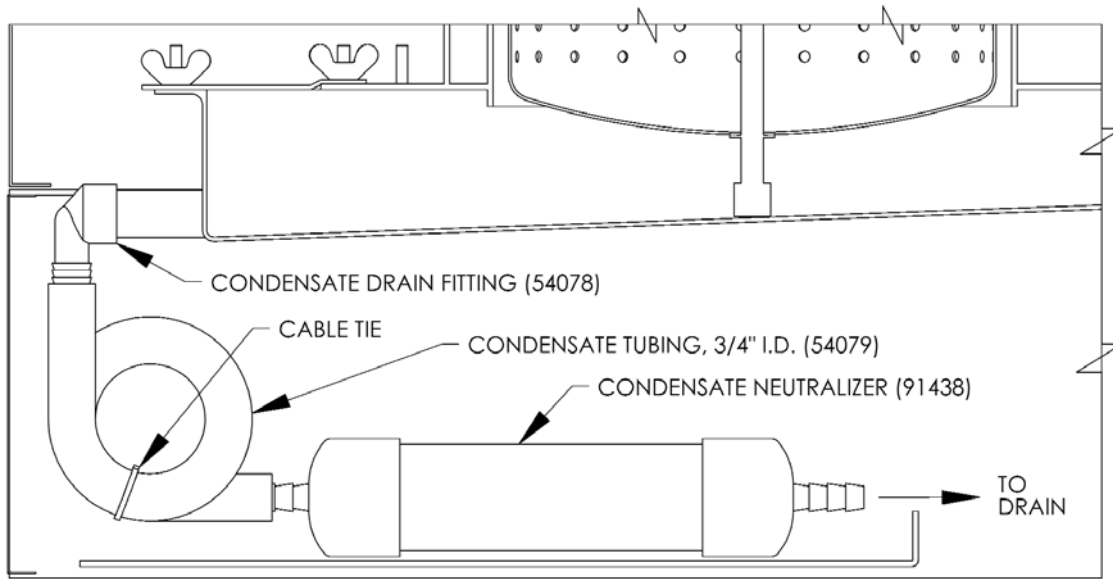

Figure 3.6: Condensate Trap & Neutralization
- Figure 3.6 shows a simple condensate trap that can be utilized with this equipment. A 3/4" Female NPT x 3/4" O.D. Barb Adapter is used to attach a 3/4" ID PVC (Tygon) Hose.